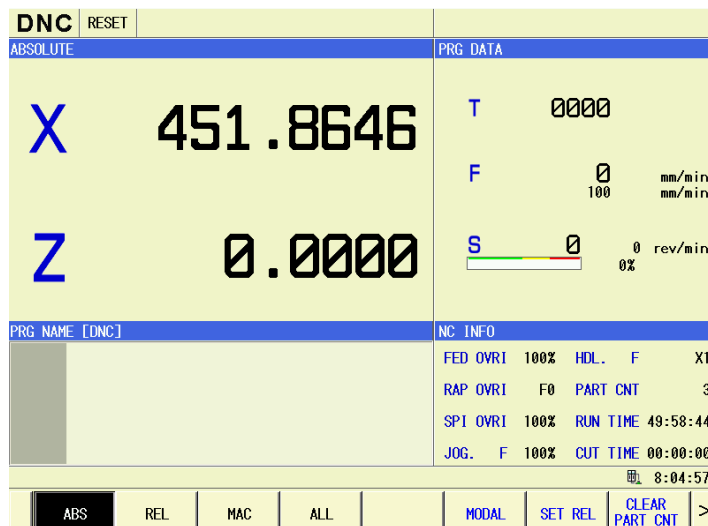

Fig.6-6
- (2) Press  key to select DNC operation mode, which is shown as Fig.6-6.